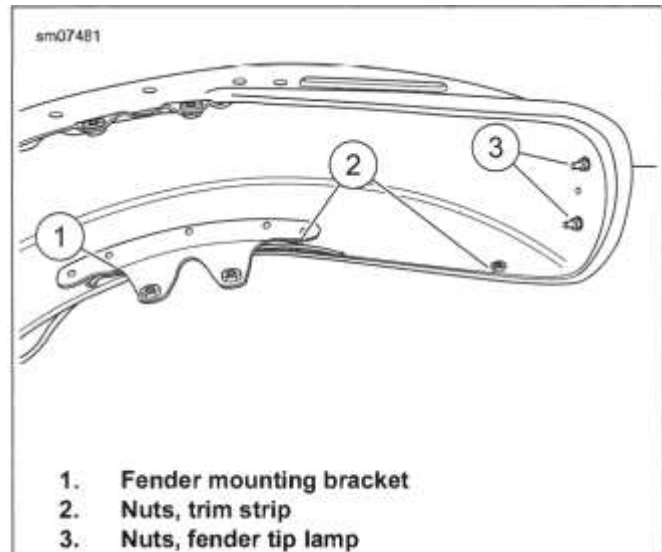

Figure 8-59. Front Fender Underside
2. See Figure 8-59. Remove nuts (2) securing left fender trim strip. Remove trim strip.
3. Remove nuts (3) securing fender tip lamp. Remove lamp and harness assembly.
See Figure 8-59. Mount fender tip lamp.
4. See Figure 8-59. Route harness between fender and fender mounting bracket (1).